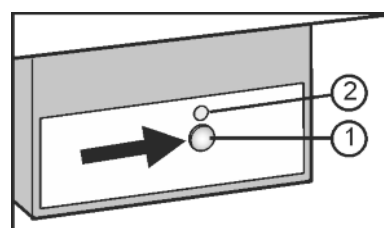

Fig. 9
- ▶ Press the On/Off button Fig. 9 (1) so that the LED Fig. 9 (2) shines.